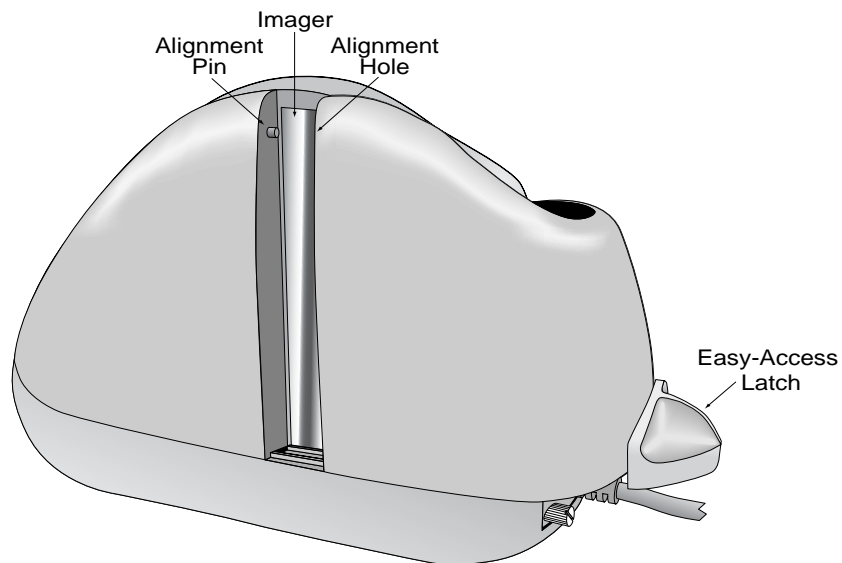

Figure 3-4. Cleaning Check Path and Imager
1. When the unit is open, as shown in Figure 3-4, check the path for debris. To clean, turn the unit over and tap gently on the bottom.